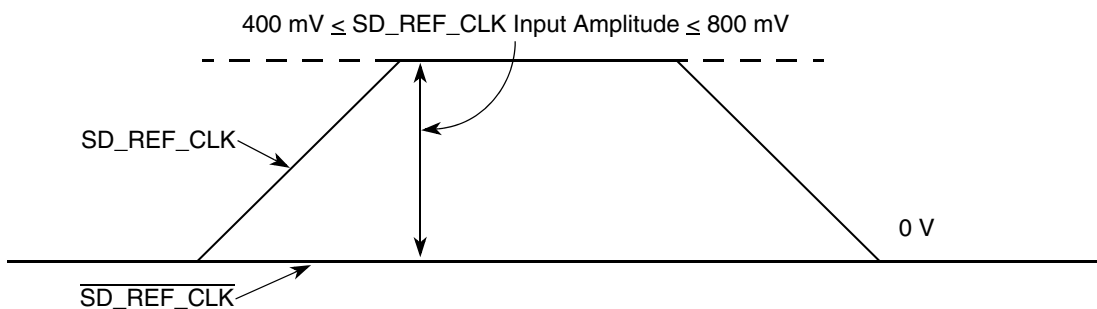

Figure 42. Single-Ended Reference Clock Input DC Requirements
- The $\overline{\text{SD_REF_CLK}}$ input average voltage must be between 200 and 400 mV. Figure 42 shows the SerDes reference clock input requirement for single-ended signaling mode.